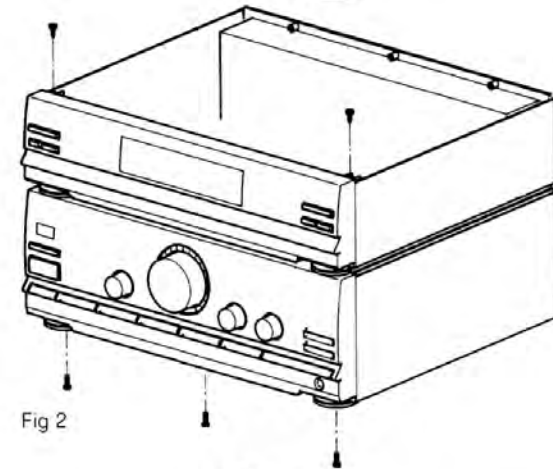

Fig 2
- 3) Loosen 2x Torx 10 - front/side panels (see figure 2).
- 4) Loosen 3x Torx M4x10 on bottom (see figure 2).